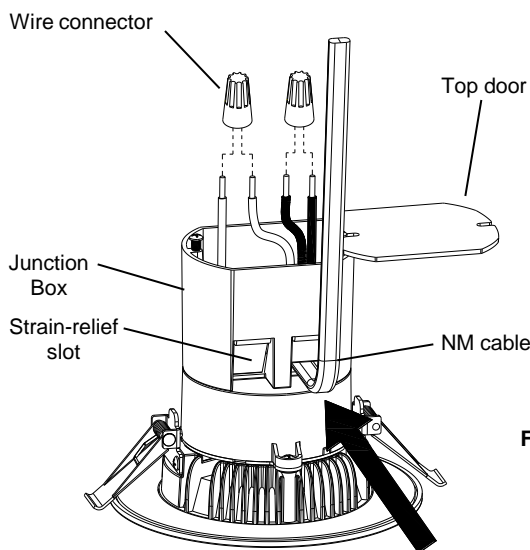

Fig. 3
4. Open the top door of the junction box. Insert about 5 or 6 inches of the NM cable into the junction box through one of the provided strain-relief slots. (Fig. 3)
5. Remove at least 3" of the cable's outer sheath and remove the plastic or paper over-wrap. Strip approximately 3/8" of insulation from the ends of all supply wires. Using the wire connectors (not provided), make the following wire connections within the junction box (Fig. 3):